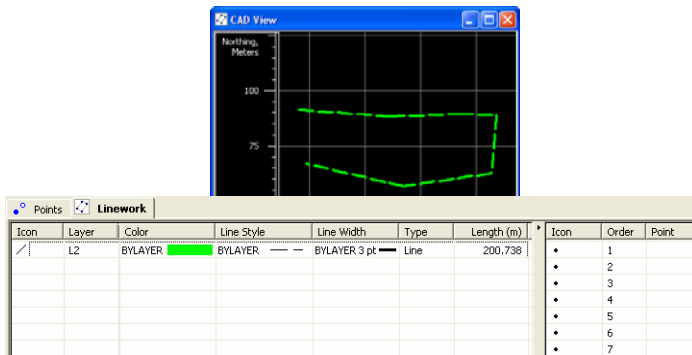

Figure 5-33. Plotting Line in the Cad View
- Click the **Add Line** button on the Toolbar and click any area within the CAD view. Repeat this step as needed (Figure 5-33). Vertices of the line will be appended to the line. These vertices have no name, and the *Points* tab does not display coordinates for them. The right panel of the *Lines* tab displays only the icon and order for the vertices (Figure 5-33).